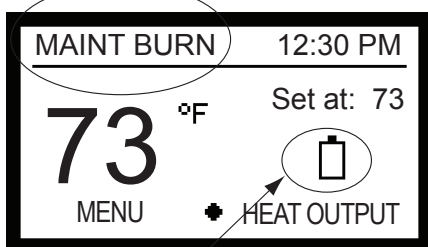

Figure 15.2
- A battery icon appears on your wall control to let you know you are now operating on battery power (**Figure 15.2**).
The wall control will display the battery icon when operating in the battery back-up mode (**Figure 15.2**).